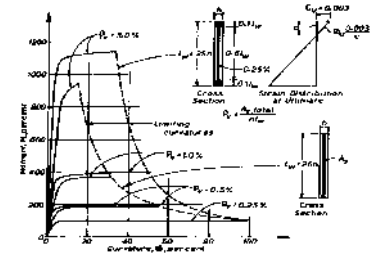

Fig. 2 - THE EFFECT OF THE AMOUNT AND THE DISTRIBUTION OF VERTICAL REINFORCEMENT UPON ULTIMATE CURVATURE (1/C)
will be limited (3). Fig. 2 shows the improvement in ductility if the reinforcement is placed near the edges. Such arrangement will be able to resist alternate flexural compression which is inevitable during seismic loading. Since the shear wall carries large gravity load also, it is necessary to provide confinement reinforcement to improve ductility to adequate levels. Closely spaced transverse ties are provided around the vertical flexural steel which may suffer softening during cyclic loading due to Bauschinger effect and open cracks. Ties spacing in such cases should be even less than that recommended by the codes (4).